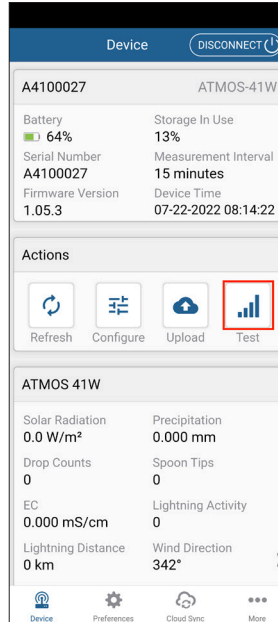

Figure 7 Select Test to begin communications test
1. Select the **Test** button on the Actions panel (Figure 7).